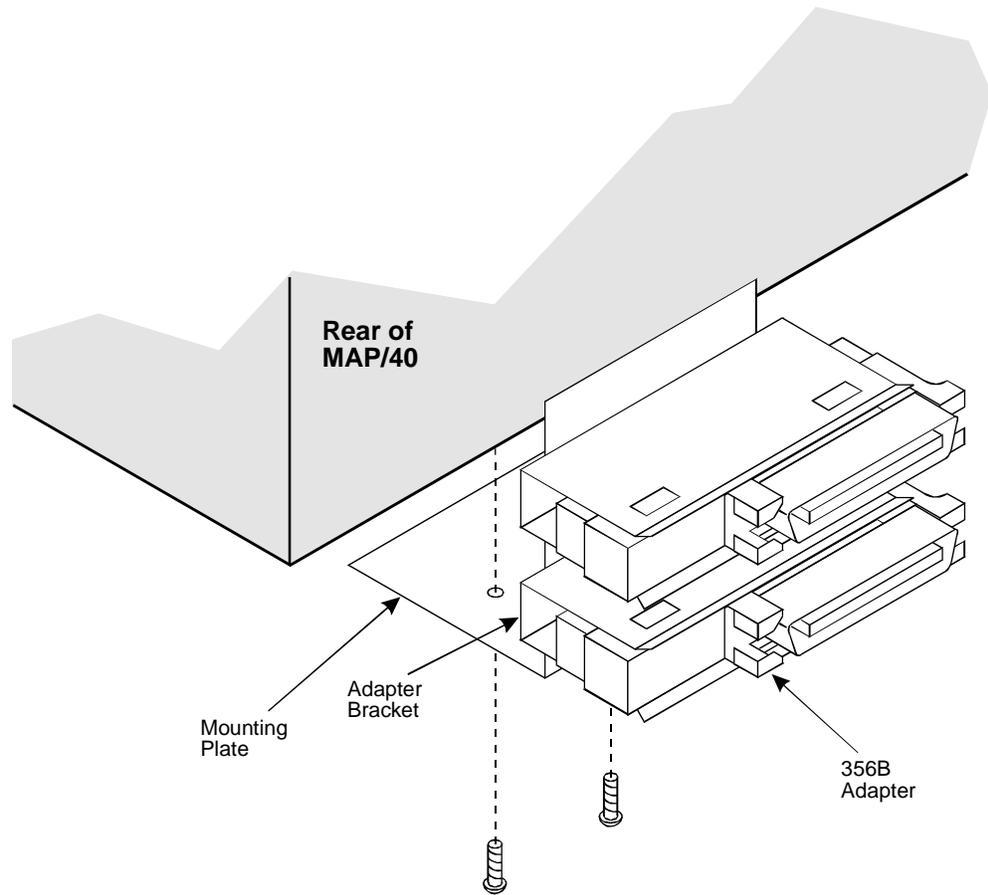

Figure 2-6. Tip/Ring Distribution Hardware
1. Turn the unit on its side and fasten the bracket assembly to the bottom of the unit with the two screws provided as shown in Figure 2-6.